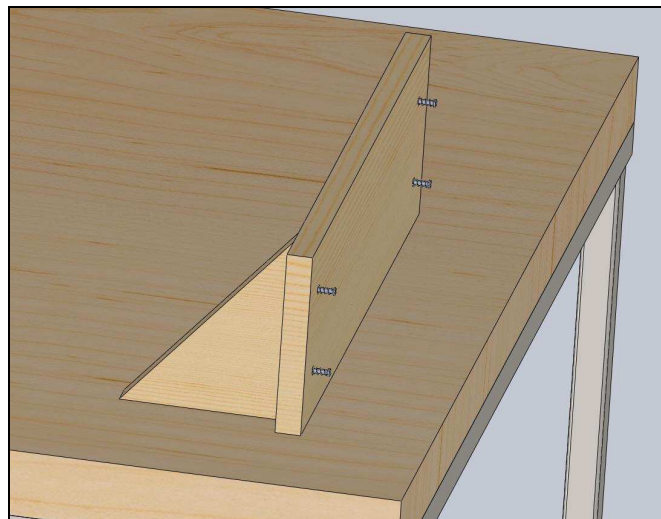

Figure 11: (1) Hold the gussets tight and aligned with line
- C. Next, hold the gusset up tight to the bottom of the top piece, aligned with the both edges and the line drawn in the Step 9B, refer to Figure 11.